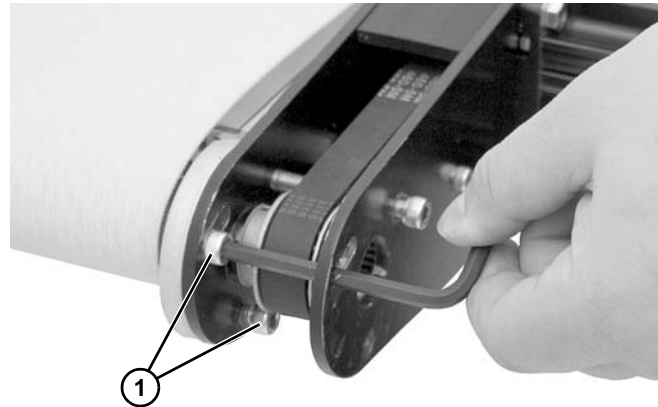

Figure 20
3. Loosen two screws (Figure 20, item 1) and raise drive package to remove tension on belt.